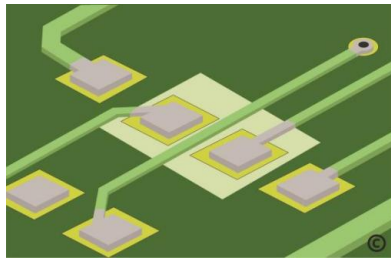

Fig 8.9
1. Make sure that the area to have the solder mask repaired is cleaned and inspected (**Fig 8.9**)